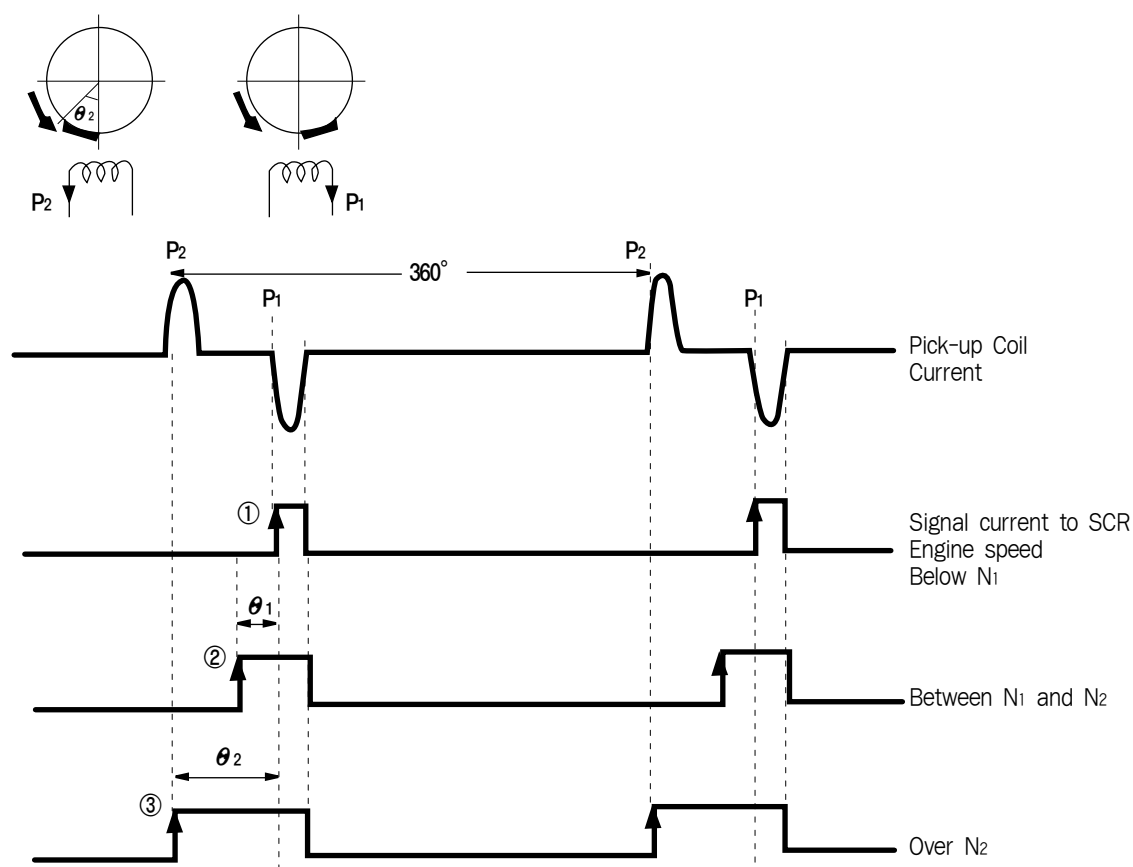

Fig. 2
When the engine is running slowly (N_1 r/min or less Fig. 3), control by the ignition timing control circuit is executed so that the ignition signal is generated at the time ①(Fig. 2) when the current (P_1) is generated and is sent to the (SCR). When the engine speed increases (N_1 to N_2 r/min), control is executed so that the ignition signal ② is generated between (P_1) and (P_2) according to the engine speed. At this time, the advance angle is (θ_1).